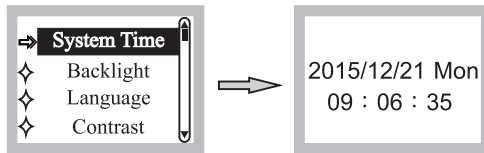

Fig. 18
- (3) Changing Date & Time: Press PLAY/PAUSE ▶❏ to enter the System Time setting mode, press PRV/TEN ◀◀ or NEXT/TEN ▶▶ to change. Press PLAY/PAUSE to confirm, Fig. 18.